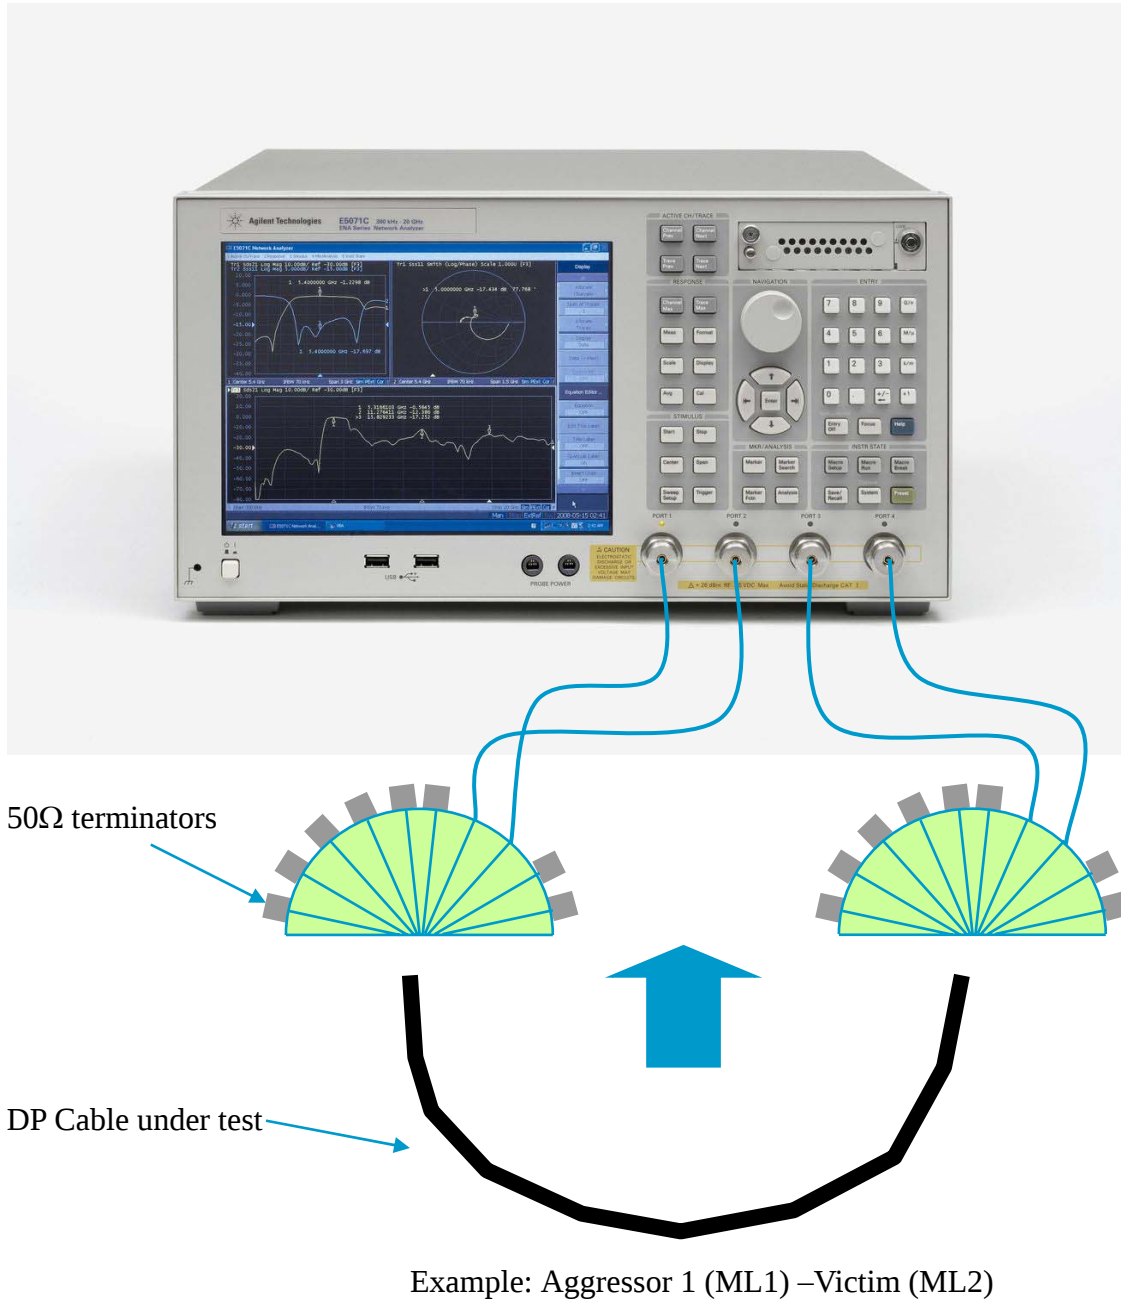

Figure 5.4.1 Connection Example for Far End Noise measurement
2. Connect the test fixture to the test port cables according to the **Figure 5.4.1**. Unused terminals should be terminated.